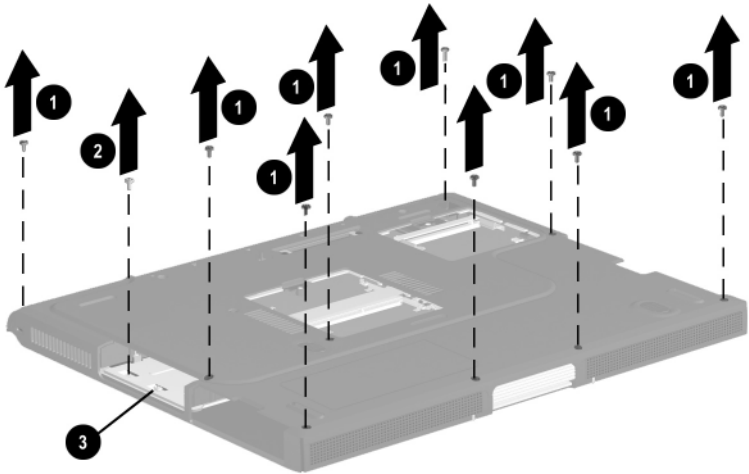

Figure 5-21. Removing the Top Cover Screws
3. Remove the nine PM2.0 × 8.0 screws ❶ securing the top cover to the base enclosure (Figure 5-21).
4. Remove the PM2.0 × 4.0 screw ❷ securing the top cover to the base enclosure in the hard drive bay.